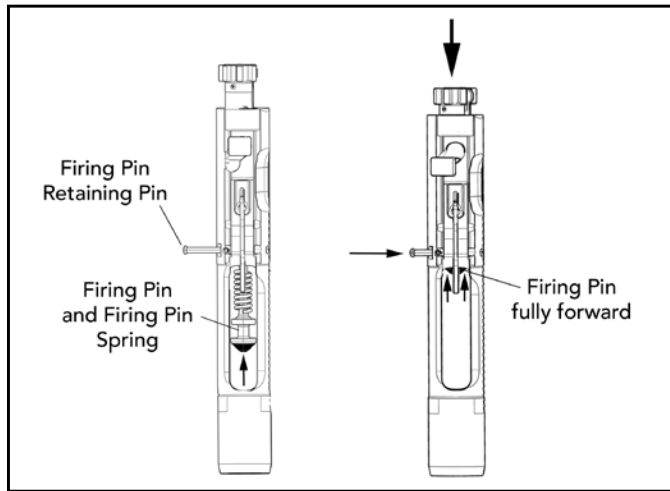

Fig. 47 – Firing Pin Retaining Pin Installation
- e. Ensure that the firing pin retaining pin is properly installed by pivoting upwards on the firing pin safety while pushing backwards on the bolt head. The firing pin should be retained inside the bolt carrier (Fig. 47).